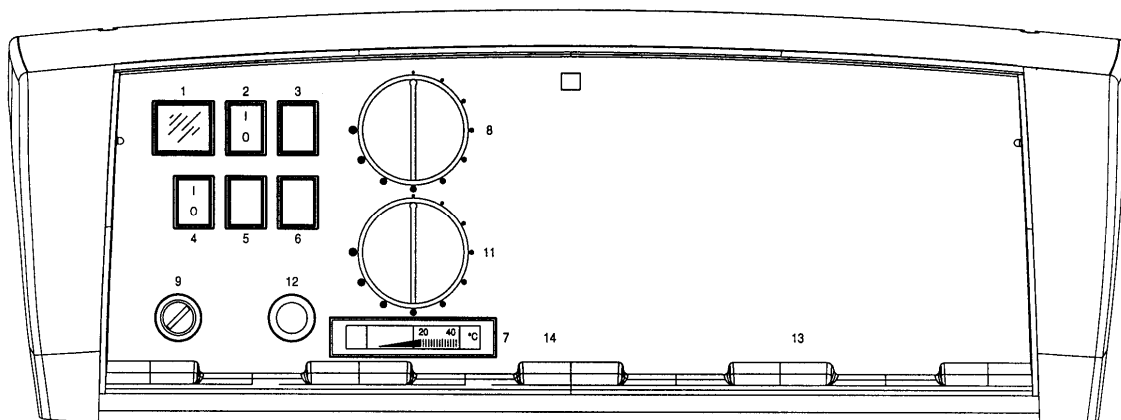

Fig. 3
3.4 PANNELLO COMANDO OPZIONALE REX/REX F/REX K/REX K F/STR (Fig. 3)